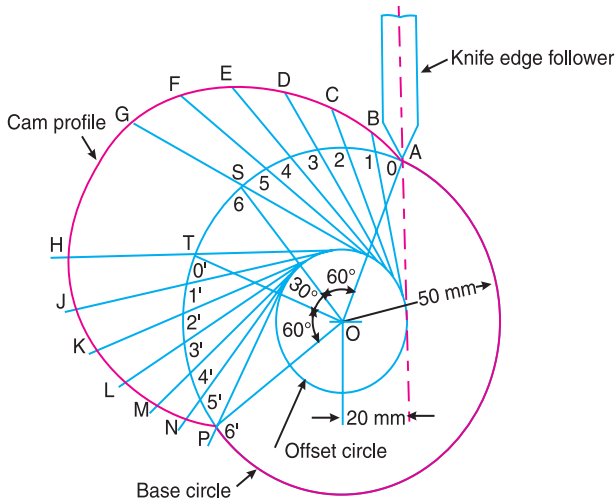

Fig. 20.12
The profile of the cam when the axis of the follower is offset from the axis of the cam shaft, as shown in Fig. 20.12, is drawn as discussed in the following steps :
- Now from the points 1, 2, 3 ... etc. and $0', 1', 2', 3' ...$ etc. on the base circle, draw tangents to the offset circle and produce these tangents beyond the base circle as shown in Fig. 20.12.